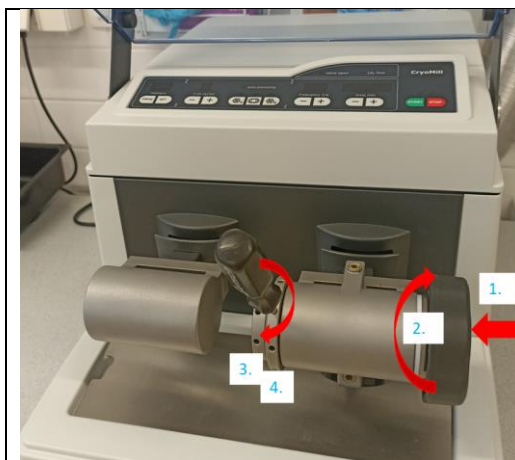

Fig. 5: Tightening of the grinding cell.
- Insert the grinding cell into the cooling jacket (Fig. 5-1.) and tighten it (Fig. 5 – 2.). Tighten the smaller screw (Fig. 5 – 3.) by hand and with the locking pin in the direction of the arrow. Then tighten the bigger lock nut (Fig. 5 – 4.) by hand and firmly against the cooling jacket with the locking pin. Tighten it in the direction of the arrow. You can see the details in the CryoMill Manual, page 33.